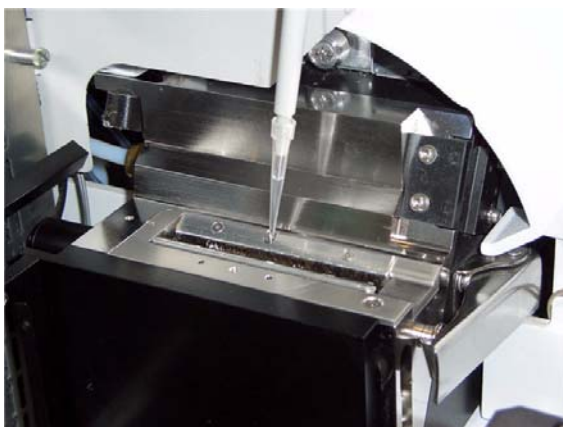

Figure 3 Applying an IRM solution through the bushing in the brush.
- 5 Insert the pipette tip into the bushing in the brush closest to the mass spectrometer and dispense the IRM solution. Do not drip the IRM solution onto the brushes. See Figure 3.